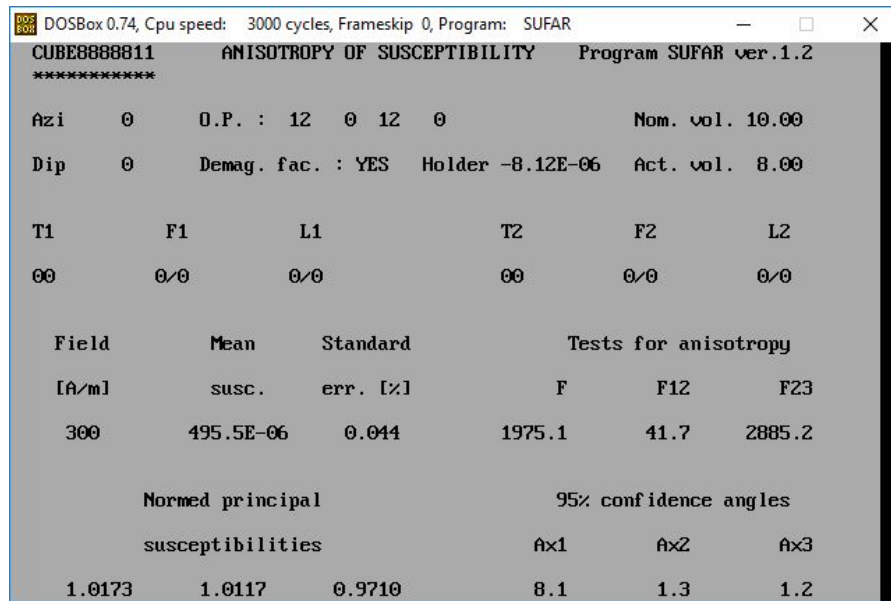

Figure 21. Sufar data evaluation window
13. The specimen data will now be displayed on the screen for you to evaluate (Figure 21). To leave this window, press ESC (the escape key).